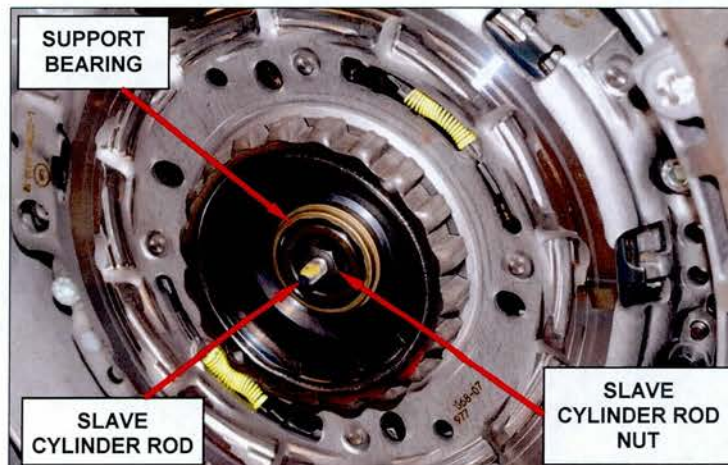

Figure 25 – Install Support Bearing and Nut
59. Install the support bearing assembly. Tighten the slave cylinder rod nut until approximately $\frac{1}{4}$ inch (4 mm) of slave cylinder rod protrudes past the slave cylinder rod nut (Figure 25). This will be an approximate starting point.